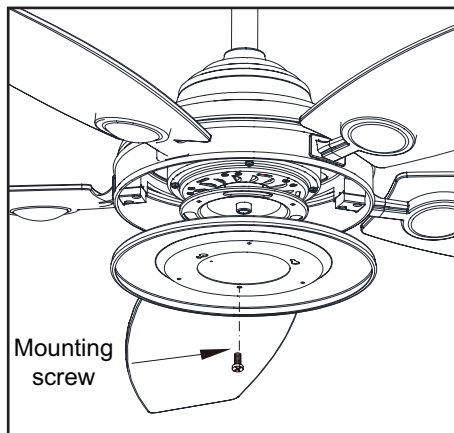

Figure 13
1. Loosen but do not remove two of three mounting screws from the fan motor assembly; Remove one mounting screw. (Figure 13)
2. Push the light kit pan up to the fan motor assembly so that the two loosened screw heads fit into the keyhole slots. Turn the light kit pan clockwise, tightened the screws. Re-install the screw that was removed in step 1 and tighten firmly. (Figure 13)